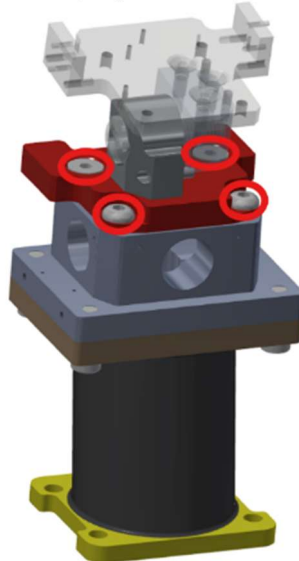

Figure 6-21. Remove the Lumbar Posture Adjustment Base Plate (474-3071-A) from the Thoracic Spine Load Cell (SA572-S107)
- 6.2.11 Remove the Lumbar Posture Adjustment Base Plate (474-3071-A) from the Thoracic Spine Load Cell (SA572-S107) by removing four M8 X 1.25 X 25 LG. FHCS (Figure 6-21).